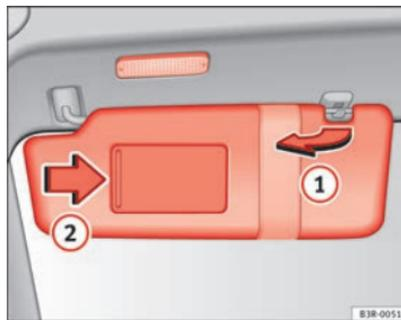

Fig. 97 Sun visor
The sun visors ① for the driver and the front passenger can be pulled out of their mountings in the centre of the vehicle and turned towards the doors ⇒ Fig. 97.